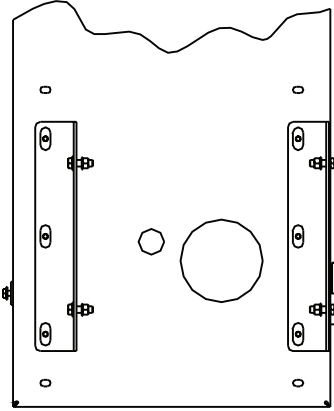

Figure 3 - Mounting Brackets in Position C
2. Using the hardware provided, assemble the two brackets to the back cover as shown in Figure 3. Note that the brackets are mounted so that the angles of the brackets are mounted in the same direction. Do not fully tighten these bolts.